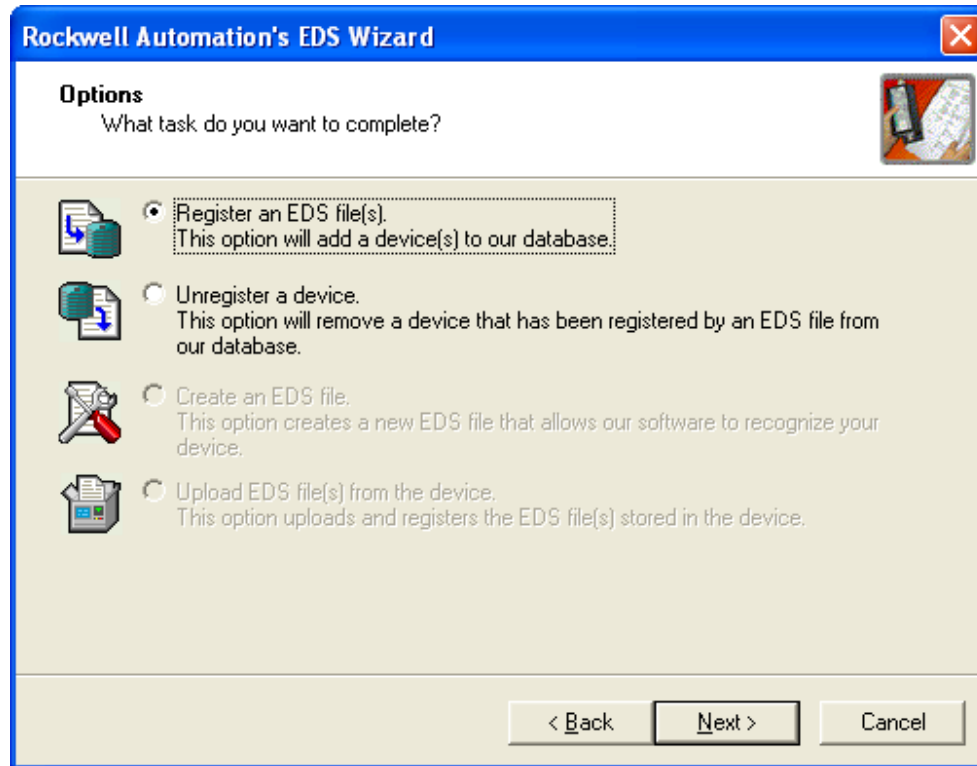

Figure 61: RSNetWorx Register EDS File
- a) Open RSNetWorx and navigate to Tools->EDS Wizard to begin the EDS registration process (see Figure 61).